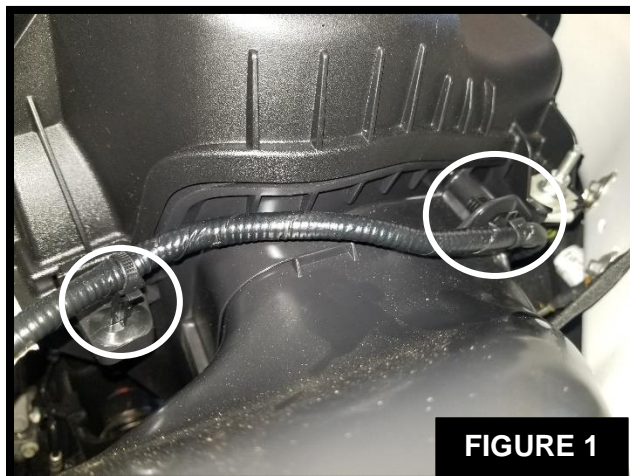

FIGURE 1
Step 4: Detach the two (2) clips holding the IAT harness to the Factory housing. Refer to **Figure 1**.